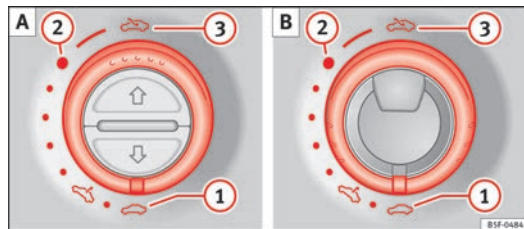

Fig. 62 In the interior roof lining (variants A and B): use the rotary button for opening and closing
⇒ Fig. 62 A or B
- The switch should be in the “closed position” ⇒ Fig. 62 .